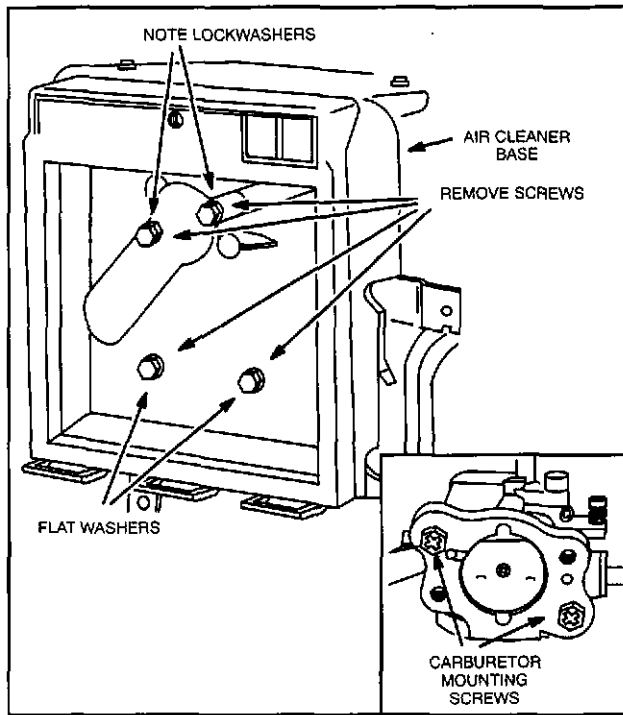

Fig. 11 - Remove Air Cleaner Base (Early Style)
**Early style:** Remove air cleaner cover. Remove four screws, Fig. 11. Remove air cleaner base and breather tube. Then, remove carburetor mounting screws.